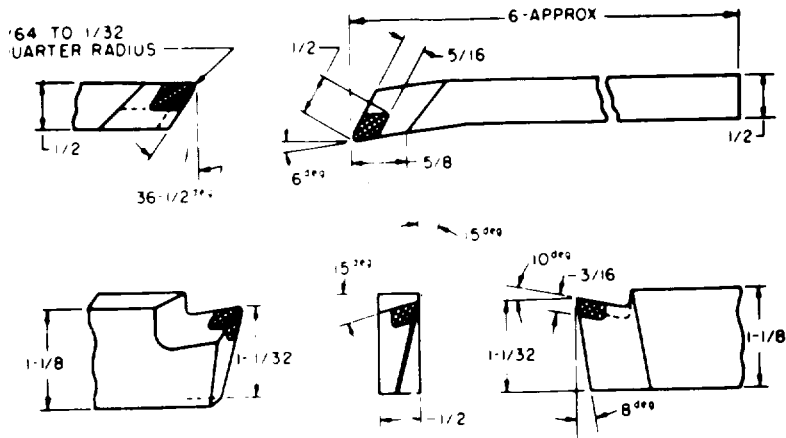
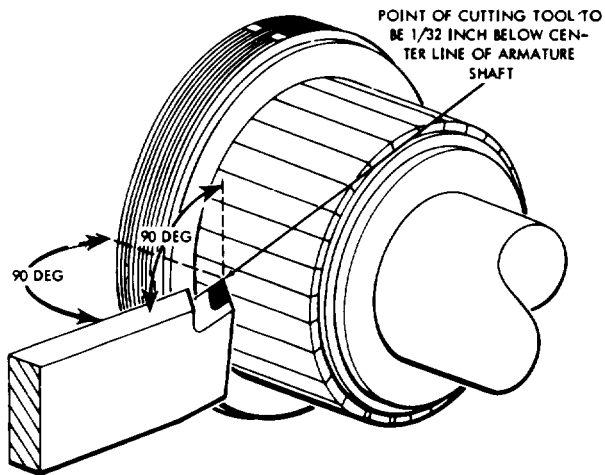
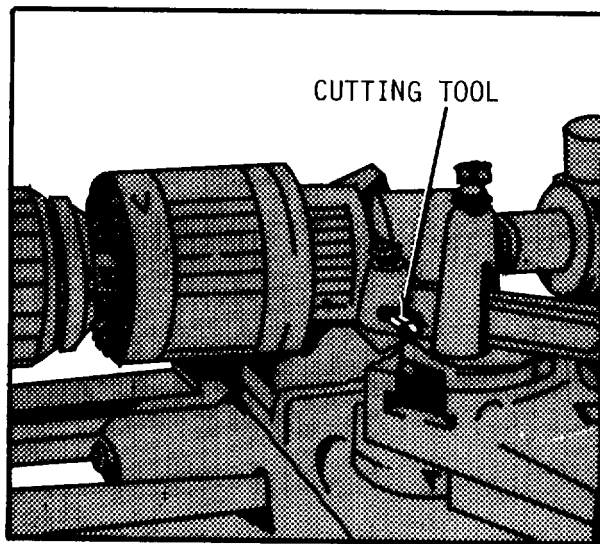

Figure 5-11. Lathe tool properly shaped for commutator turning.
Figure 5-12. Position of cutting tool to commutator.
Figure 5-13. Armature mounted in lathe.
(1) Install commutator end bearing on armature and mount in lathe with armature turning center in place on bearing (fig. 5-13). Do not mount armature in shaft centers.
(2) Measure diameter of commutator to make certain it can be safely turned to minimum diameter of 3.220 inches. Do not attempt to refinish commutator reduced by previous resurfacing to less than 3.220 inches.
(3) Secure and sharpen cutting tool for commutator work (fig. 5-11). Position cutting tool against commutator as shown in figure 5-12. Make certain tool is sharpened by final honing with hard, fine stone.
(4) Take light cut across entire surface of commutator with armature rotating between 600 and 800 rpm (fig. 5-13). If commutator is not severely worn or pitted, first cut should renew the entire surface. If commutator is badly worn, take additional cuts until entire surface is renewed. Carry each cut across entire surface without stopping, and remove no more than 0.005 inch of material in any one cut.